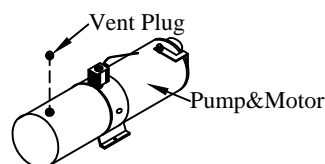

Figure 3: Vent plug installation.
- 4. Unscrew** the solid plastic plug from the pump reservoir and **Install** the vent plug provided, if not already installed (Figure 3).